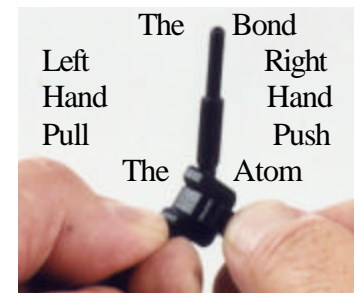

Figure 3. The final step to assemble the tetrahedral atom “with bonds”
- 3) grasp the two pieces against the central “U”. Pull sharply with the left hand and push sharply with the right hand until there is a second click, Figure 3.